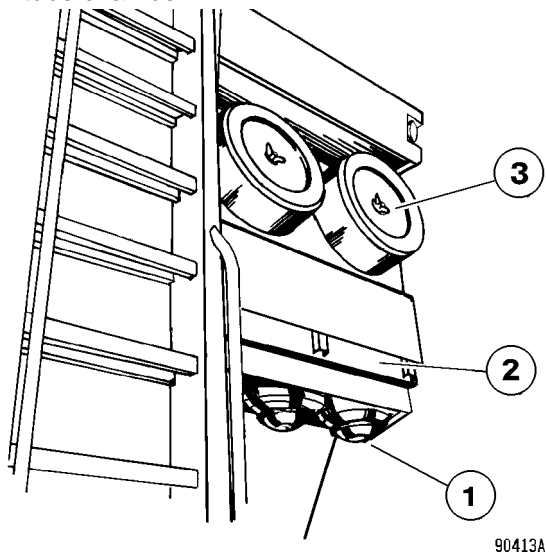

FIGURE 5-1. AIR CLEANERS
1. Inspect dust collector cups (1, Figure 5-1) at regular intervals - daily inspection is recommended. Never allow dust level build up to the tube chamber.